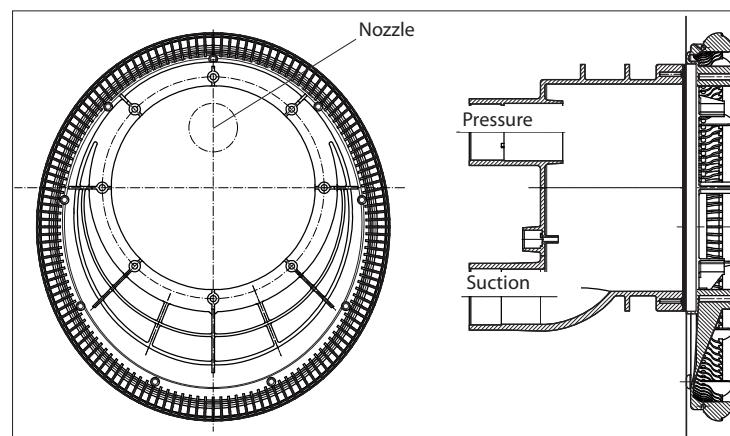

Fig. 10
- 3) Mount the suction housing (107) onto the clamping ring. Respect the installation position (Fig.10)
- 4) Place the nozzle housing (102.1) onto the jet housing (1).
- 5) Insert the pneumatic hoses and cables of the floodlight through the protective hose (14) and seal using the screwed cable gland (20).
- 6) Use clamp (8) to fasten the air hose to the factory-mounted air regulator (21).
- 7) Fasten the nozzle housing (102.1) to the jet housing (1) using the 4 self-tapping screws (95).